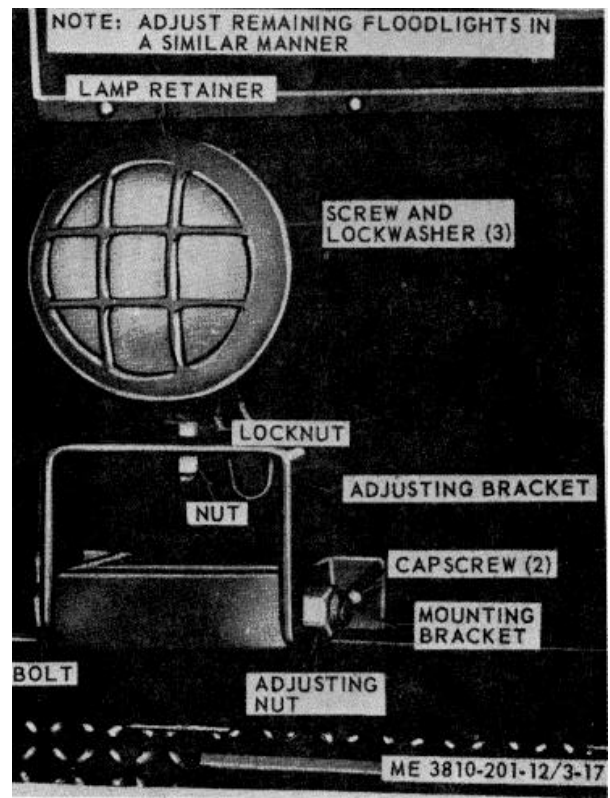

Figure 3-17. Floodlight adjustment and lamp replacement.
(1) To change horizontal position loosen locknut (fig. 3-17), move beam to desired position, then tighten locknut.
(1) Remove three screw and lockwasher (fig. 3-17) from rear of body and remove lamp retainer.
(2) Remove three screw and lockwasher from plate on rear of retainer, remove plate, then remove lamp and packing from lamp retainer. Discard unserviceable lamp.
(3) Install packing in retainer, install new lamp; position plate on retainer, then secure with three lockwasher and screws.
(4) Position lamp retainer on floodlight body, so that lamp prongs engage socket in body, then secure retainer to body with three lock-washer and screws.